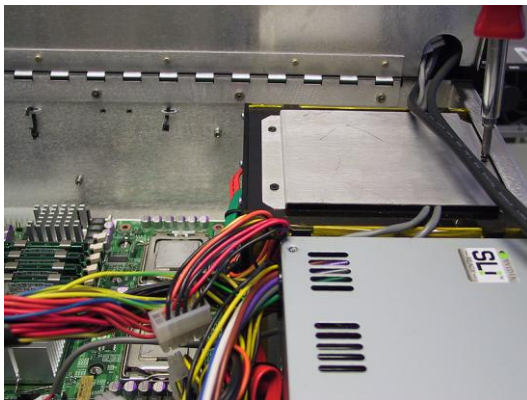
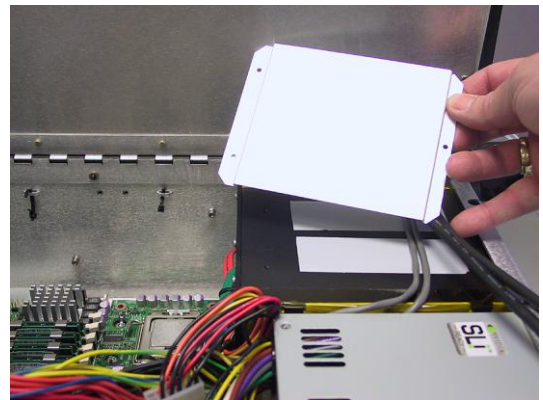

Figure 5-100
Figure 5-101
- 7) Use a Phillips #1 screwdriver to remove the three 4-40 screws holding the wire harness protector plate (Figure 5-100), then gently remove the protector plate to expose the soft power and right speaker cables (Figure 5-101).